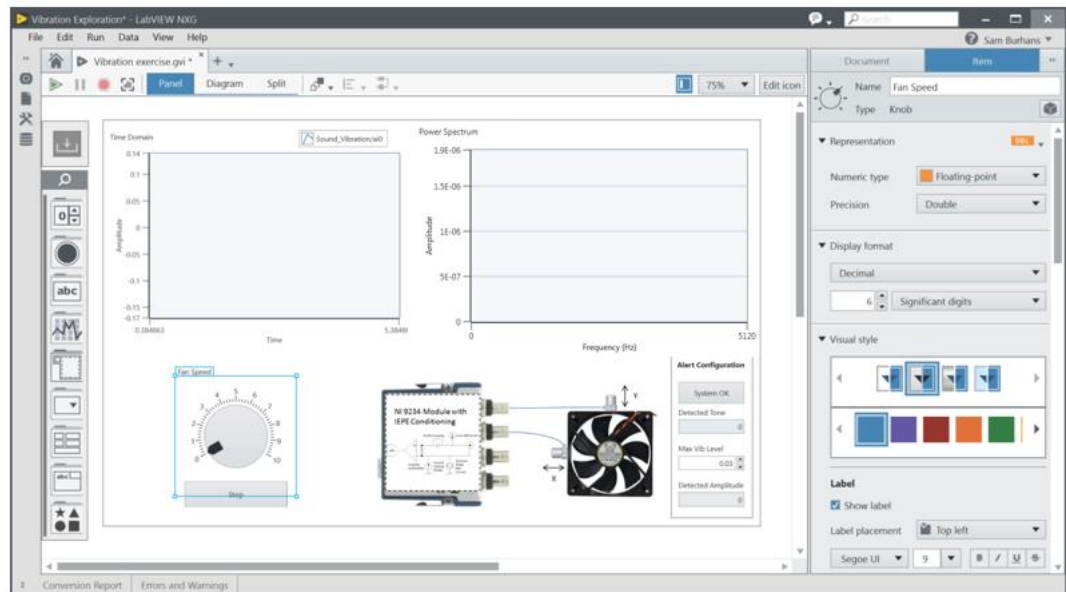

Figure 7-8 You can add controls to the front panel by selecting them from the palette. Controls can be arranged and sized in any way you'd like.
19. Once selected, click in the front panel to place the control in the empty space above the stop button. You may want to expand the size of the control and give it a descriptive label like “Fan Speed” to make it more user friendly. Your front panel should now look like Figure 7-8.